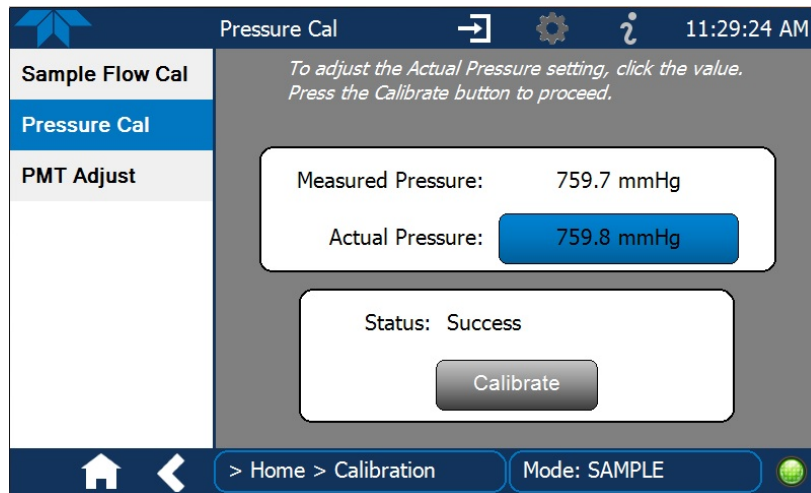

Figure 17. Pressure calibration screen. IMPORTANT: Perform this calibration prior to any flow calibration.
2. Compare the “Measured Pressure” in this screen to the Audit Pressure Standard (Figure 17).